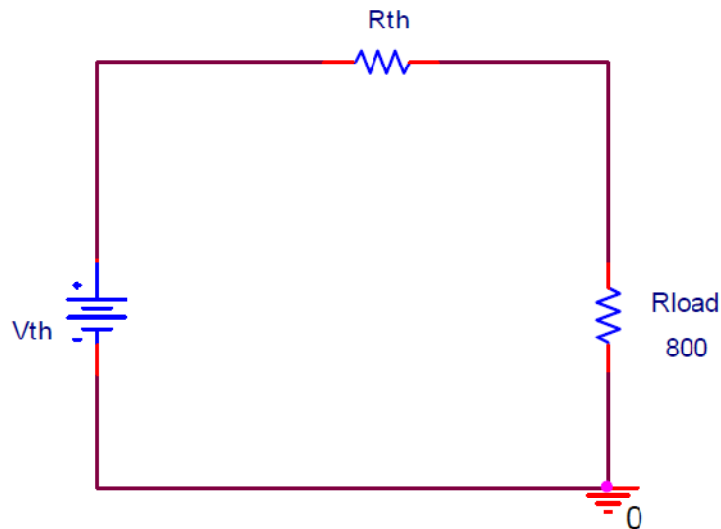

Figure 4: Circuit #4.
Add the 800Ω load to your Thevenin equivalent circuit as shown below in Figure 4. Build the circuit in PSPICE, and answer the questions below.
- (1) Build the circuit shown in Figure 4 and simulate the circuit using 'Bias Point' Analysis. Show on the schematic the voltage and current across the 800Ω load.
- (2) Calculate the voltage drop and current across the 800Ω load.
- (3) Compare the results from (1) and (2). Find the % error.